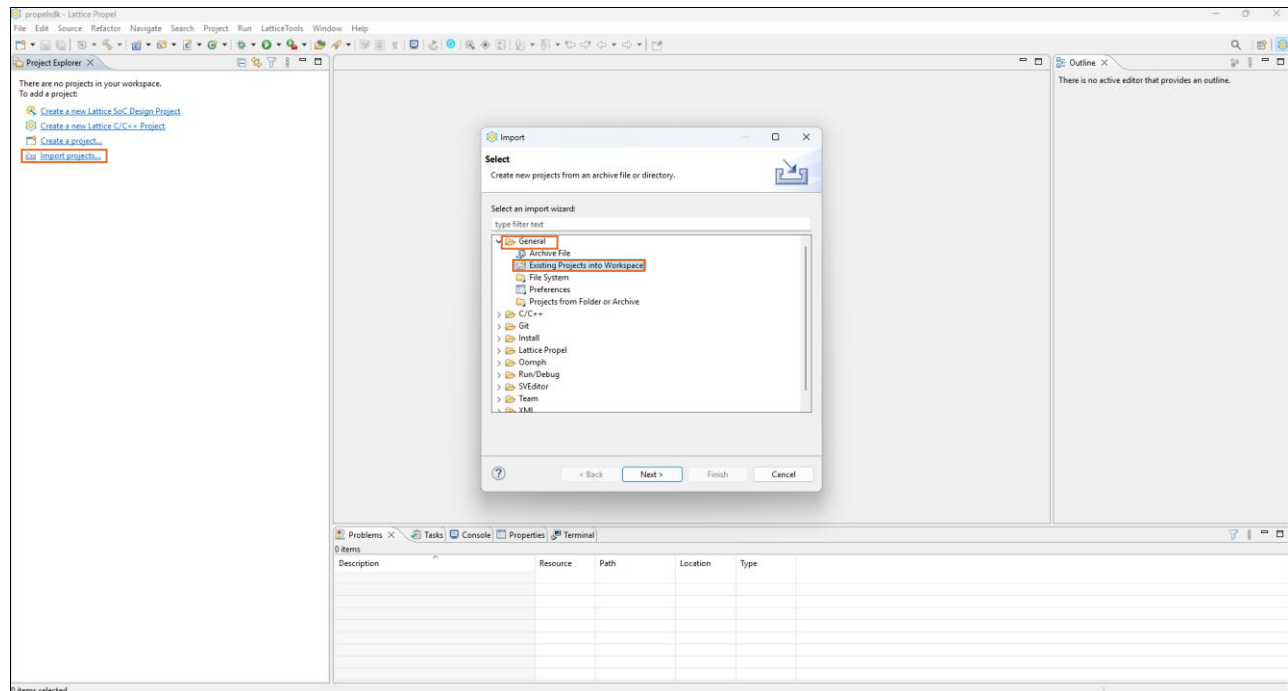

Figure 5.2. Import a Project in Lattice Propel SDK
4. In the GUI, click **Import projects...**, and then select **Existing Projects into Workspace** under **General** (Figure 5.2).